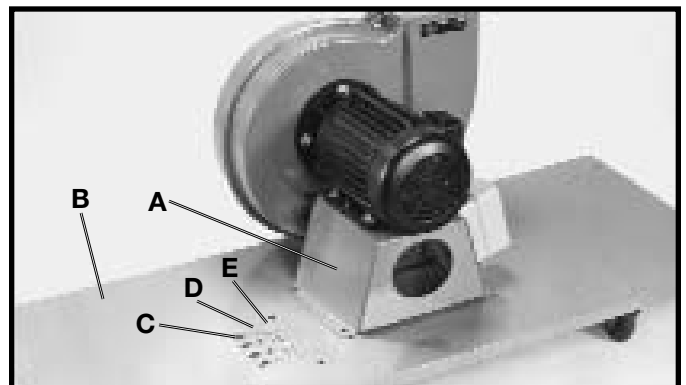

Fig. 7
1. Set motor assembly (A) Fig. 7, on base (B).
2. Align mounting holes in the motor assembly (A) Fig. 7, with four pre-drilled holes in base (B). Place a lockwasher (D) Fig. 7, and a flat washer (E) onto hex head screw (C). Insert the hex head screw through the hole in the motor assembly, thread the screw into the hole in the base, and tighten securely. Repeat this process for the three remaining holes.